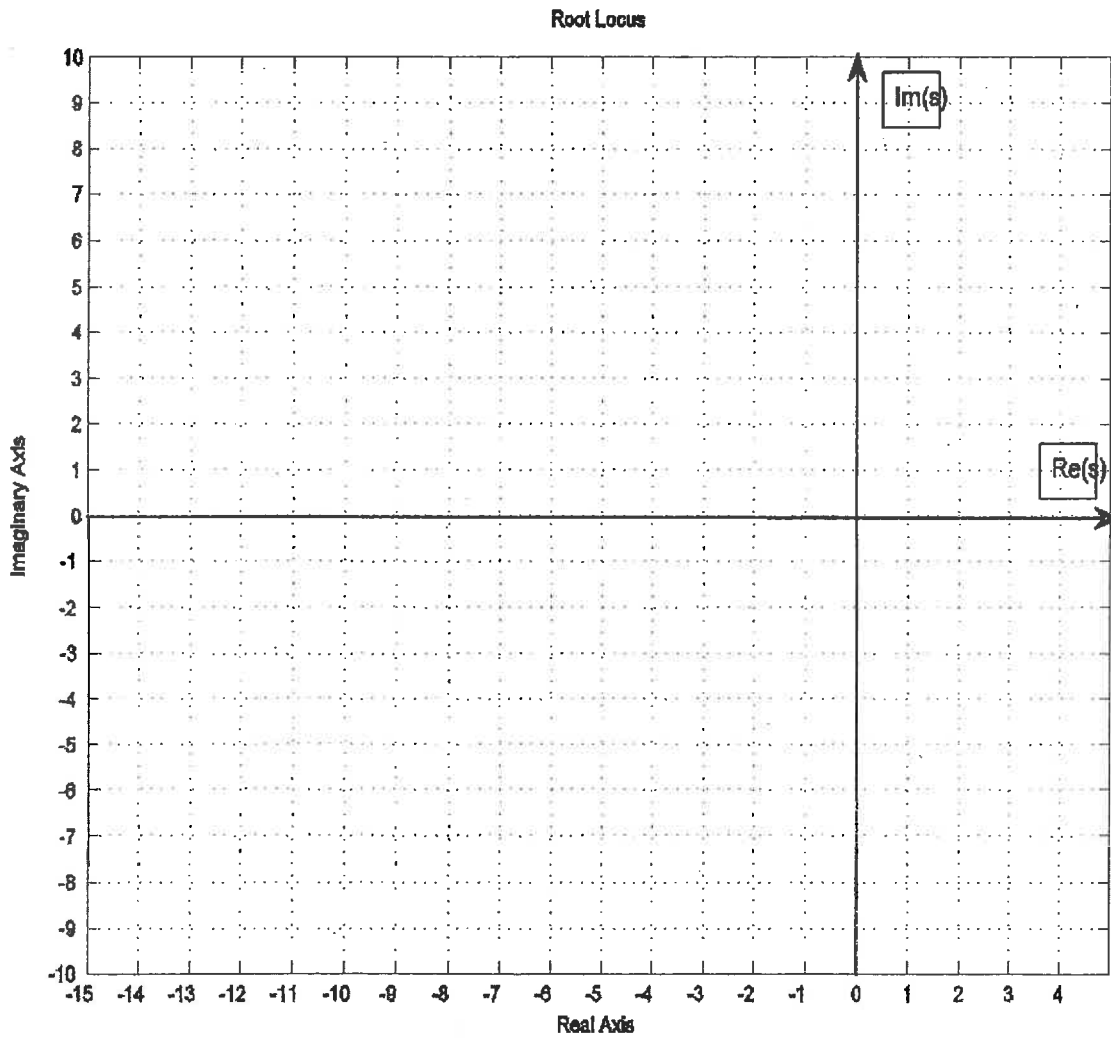

Figure Q4.2
- 1) (8 marks) In the space provided in Figure Q4.2, sketch a detailed Root Locus for the system, including crossovers with the imaginary axis, if any, break-away/break-in coordinates, if any, asymptotes, if any, a centroid, etc. If you are using estimates, explain why. Place the Root Locus parameters in Table Q4.1.